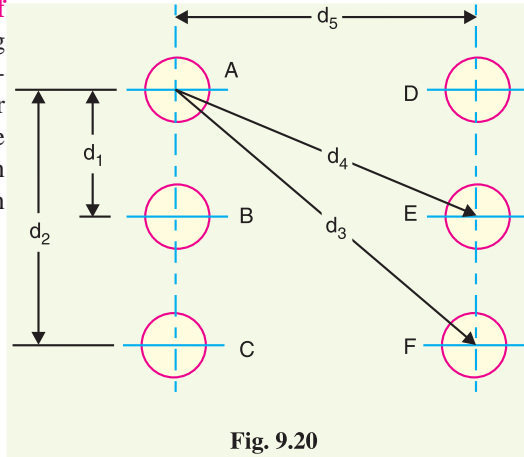

Fig. 9.20
**(ii) Potential at a conductor in a group of charged conductors.** Consider a group of long straight conductors  $A, B, C$  etc. operating at potentials such that charges  $Q_A, Q_B, Q_C$  etc. coulomb per metre length exist on the respective conductors (see Fig. 9.20). Let us find the potential at  $A$  (i.e.  $V_A$ ) in this arrangement. Potential at  $A$  due to its own charge (i.e.  $Q_A$ )